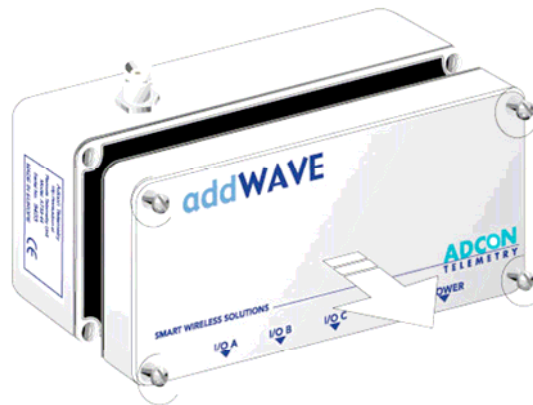

Fig. 3: Removing the A73x Lid
1. Open the lid of the A733GSM RTU by unscrewing the four bolts in the corners of the RTU, then remove the lid as shown in Figure 3 .